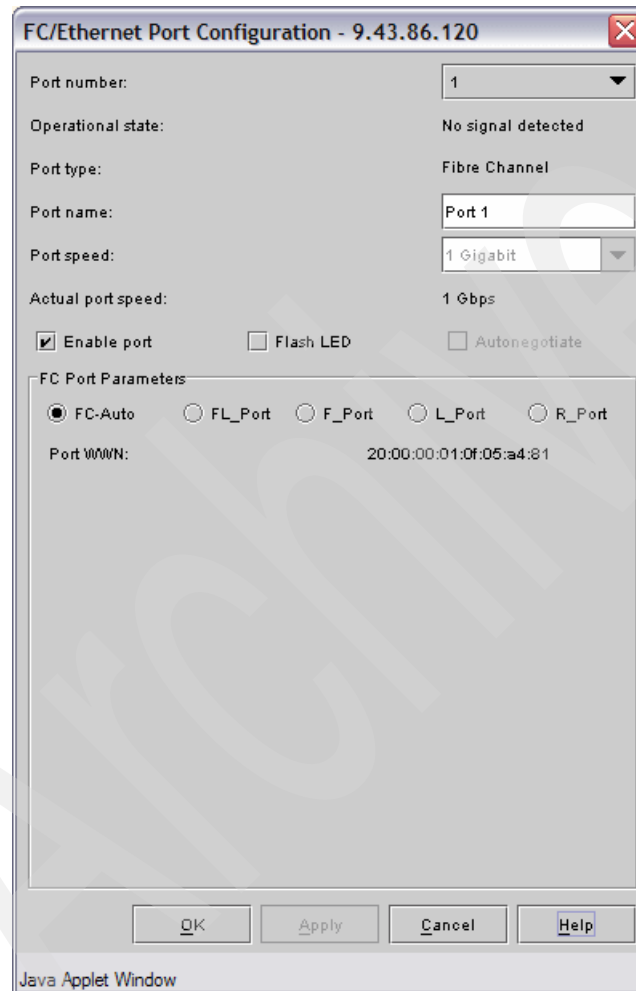

Figure 17-42 Configure port 1 as R\_Port
- a. Select port 1 from the Port number drop-down list at the top of the window (Figure 17-42).